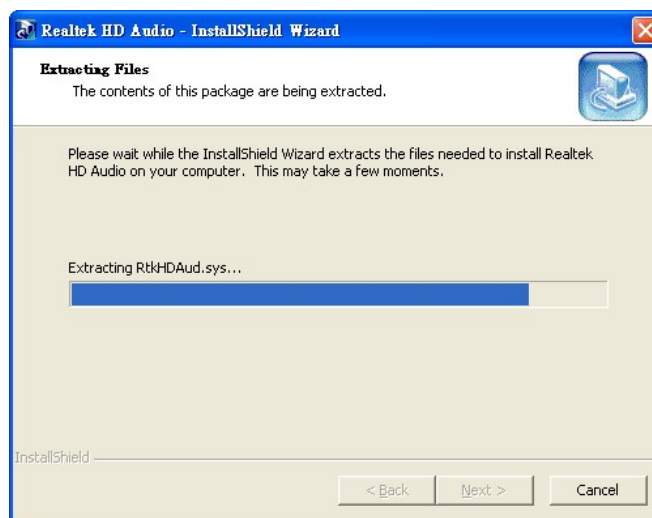

Figure 6-19: The InstallShield Wizard Starts
Step 3: The InstallShield Wizard starts (**Figure 6-19**).